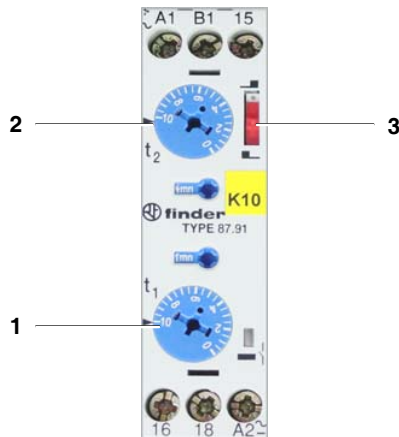

Abb. 63 Timer K10 (electric units)
K10 is an industrial timing relay with 1 single pole, double throw contact. The drain interval and drain period is set with controls t1 (1, Abb. 63) and t2 (2).
Switch (3, Abb. 63) is set to the position to start with a pulse. t1 is factory set to 15 minutes, t2 to a drain time of 6 seconds.